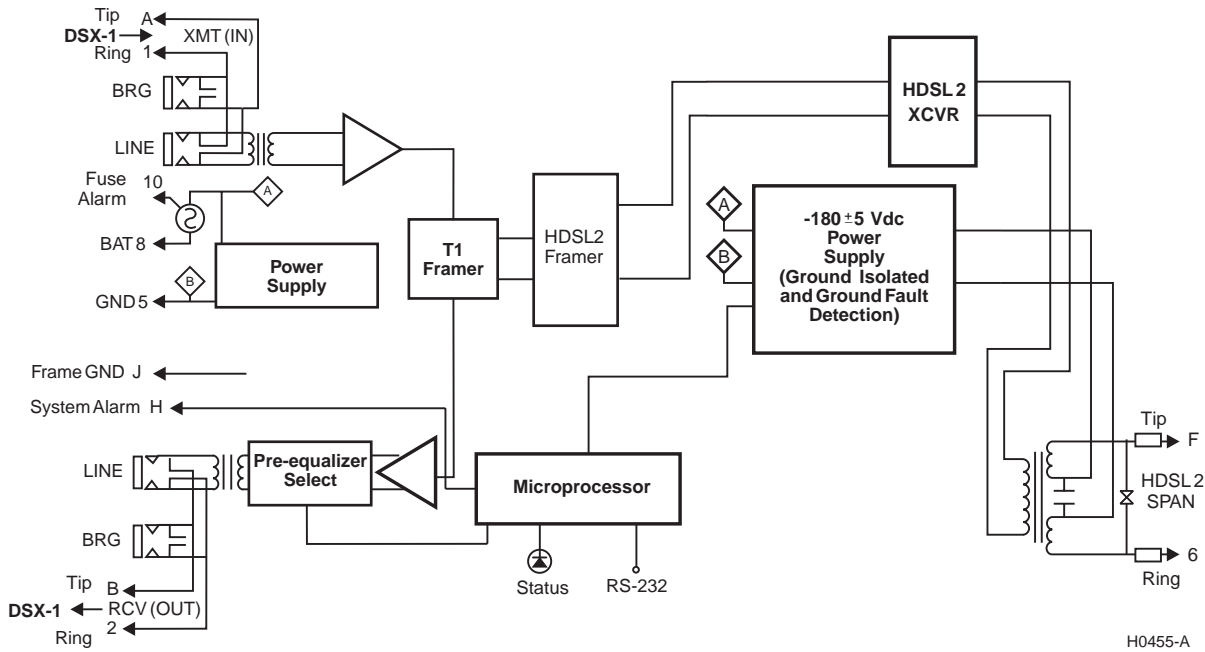

Figure 33. H2TU-C Block Diagram
Figure 33 shows a block diagram of the H2TU-C. The H2TU-C receives a 1.544 Mbps DSX-1 data stream from the DSX-1 digital cross connect interface. The H2TU-C contains a DS1 frame synchronizer controlled by a 16-bit microprocessor that determines the type of framing on the DS1 stream and synchronizes to it. The H2TU-C recognizes Superframe (SF), including D4 or Extended Superframe (ESF) framing.